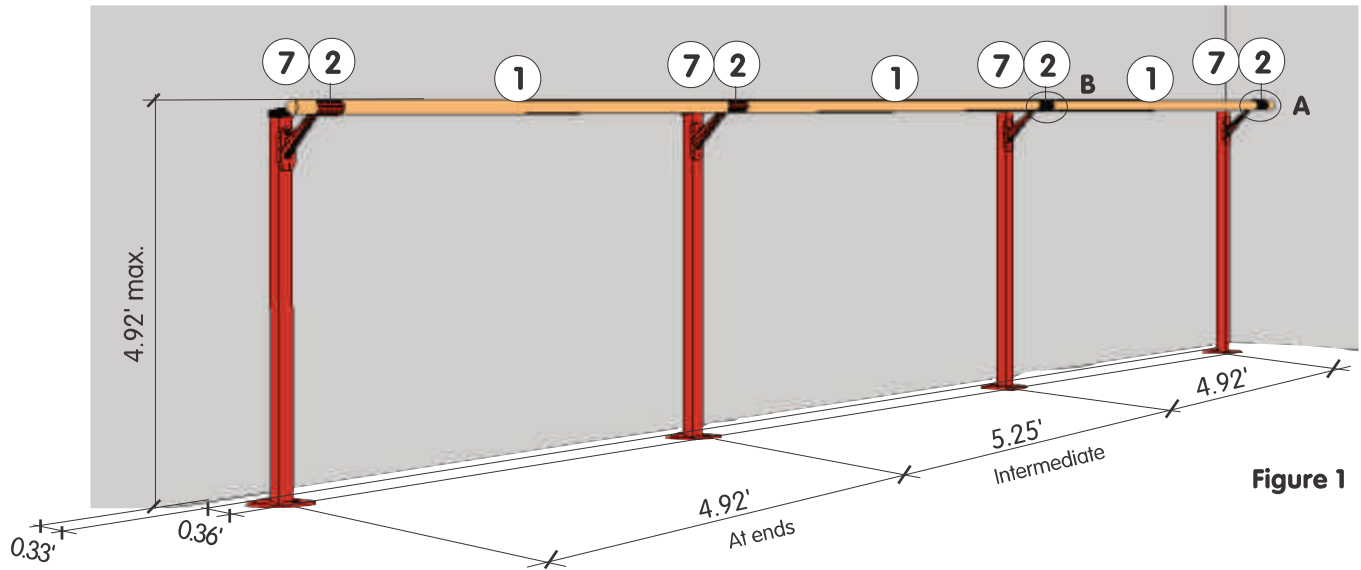

Figure 1
I. Preparing the floor attachments (Fig.: 1):
- 1/ Mark the distances between bracket support frames (7) on the floor: 1500 mm (4.92 ft) at both ends, and 1600 mm (5.25 ft) in the center (intermediate brackets).
- 2/ On the floor, mark the position of attachment elements (2 parallel lines, spaced by 110 mm (0.36 ft)), 100 mm (0.33 ft) apart from the wall, to which the adjustable support frames (7) will be secured.
II. Installing the floor attachments (Fig.: 1 & 2) (2 individuals recommended):
III. Installing and securing the ballet bars (Fig.: 1, 3, and 4) (2 individuals recommended):